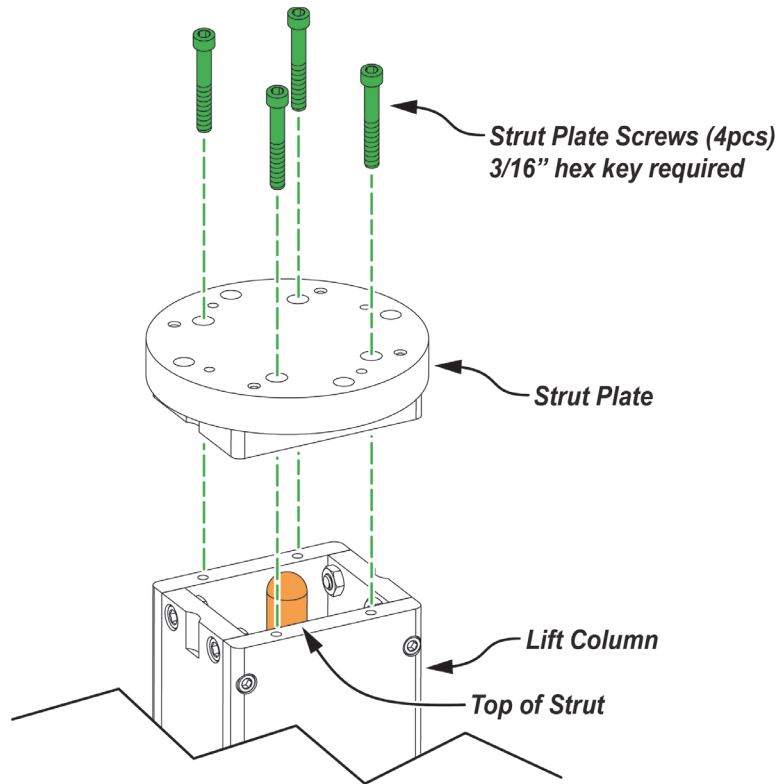

Figure 18 - Removing the Strut Plate Screws (4 pcs)
- Use a 3/16" hex key to remove the four screws that fasten the strut plate to the top of the lift column. In **Figure 18**), these screws are shown as green. Retain the screws for re-installation later.